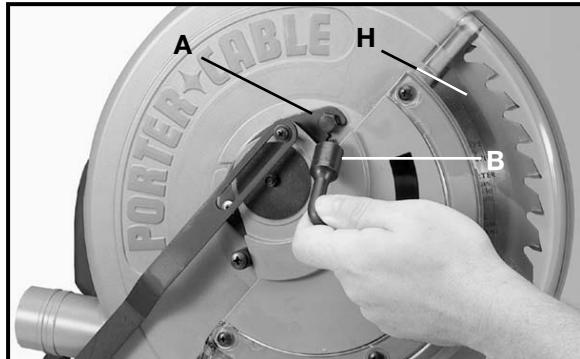
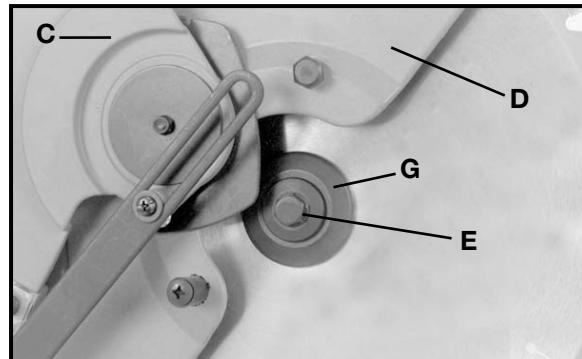

Fig. 46
Fig. 47
3. Loosen screw (A) Fig. 46, with wrench (B) (provided).
4. Rotate arbor cover (C) Fig. 47, and lower guard (D) Fig. 47, to the rear, exposing arbor screw (E).
5. Remove arbor screw (E) Fig. 47, by turning screw clockwise with wrench (supplied), while at the same time, pressing in on arbor lock (F) Fig. 48, to keep the arbor from turning. Remove outside blade flange (G) Fig. 47, and saw blade (H) Fig. 46. **DO NOT REMOVE INSIDE BLADE FLANGE.**
6. Attach the new saw blade **MAKING CERTAIN TEETH OF SAW BLADE ARE POINTING DOWN AT THE FRONT**, and attach outside blade flange (G) Fig. 47. Check to see that the flats on outside blade flange are engaged with flats on arbor shaft.
7. Thread arbor screw (E) Fig. 47, into saw arbor by turning screw (E) counterclockwise as far as possible by hand. Then tighten arbor screw (E) with wrench supplied while at the same time pressing in on arbor lock (F) Fig. 48, to keep arbor from turning.
8. Rotate arbor cover (C) Fig. 47, and lower guard (D) to the front and tighten screw (A) that was loosened in **STEP 3**.